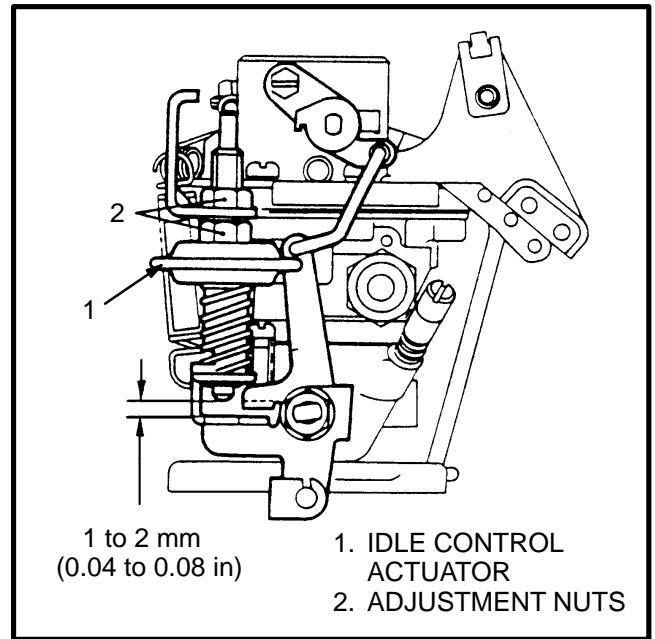

FIGURE 9. CARBURETOR ADJUSTMENTS
6. Stop the engine. See FIGURE 9. Adjust the idle control actuator so that there is 1 to 2 mm (0.04 to 0.08 in) between the bottom of the rod and the throttle lever.